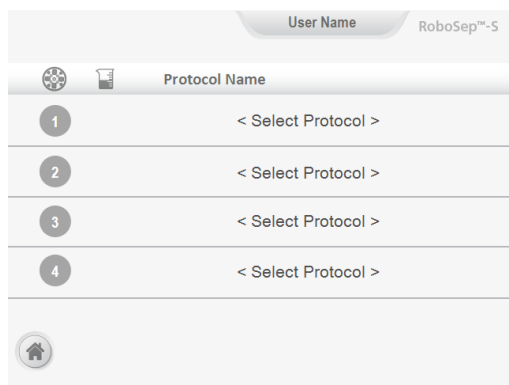

Figure 14. Run Samples Screen
- a. Select one of the user profiles to access Run Samples Screen (Figure 14) and continue with RoboSep™-S operations.